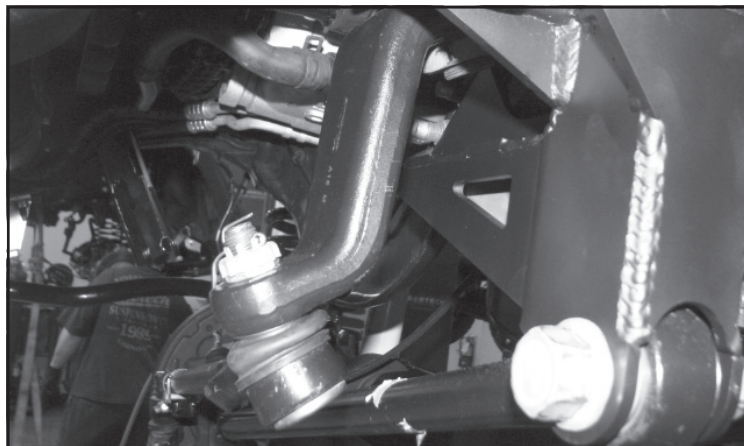

FIGURE 14 - STEP 20
20. Reinstall the track bar to the new frame bracket. Torque to 406 ft-lbs. Install the draglink to the new Fabtech pitman arm using the factory hardware and the new supplied cotter pin. Torque to 129 ft-lbs **NOTE: The drag link will need to be rotated 180 degrees and installed from the bottom side of the pitman arm.** **SEE FIGURE 14**